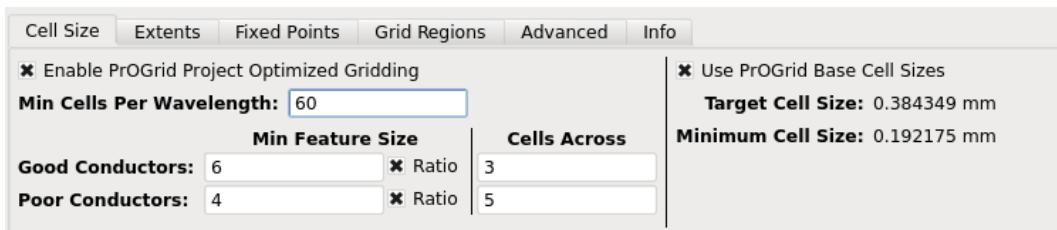

Figure 4.12: Defining cell sizes in the Grid Editor
- On the CELL SIZE tab (Figure 4.12), set MIN CELLS PER WAVELENGTH to "60". This will increase the grid resolution (improving accuracy) without significantly increasing the amount of memory or runtime required for the simulation.